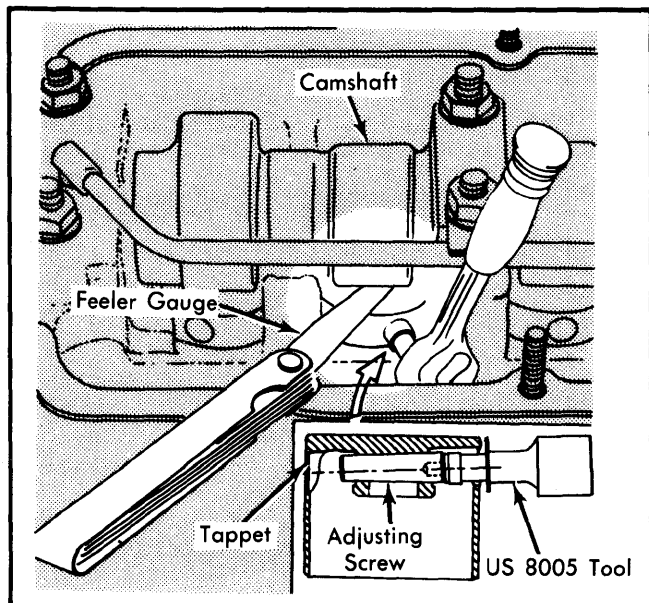

Fig. 1 Adjusting Valve Clearance
2) Correct adjustment (if necessary) by using US 8005 adjusting tool and making complete turns of adjusting screw. See Fig. 1. Each turn changes clearance by .002" (.05 mm).